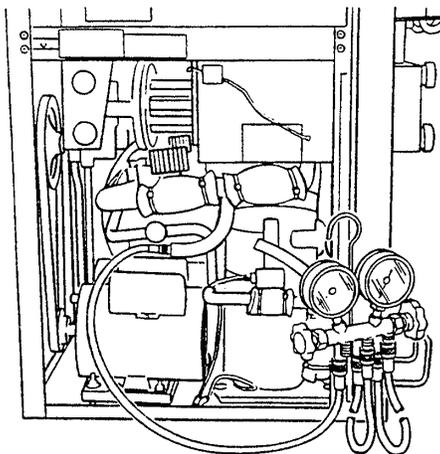

Figure 46. Pressure Gauges
- To check the liquid line solenoid valve seats, we must disconnect one of the electrical lines from each of the liquid line solenoids. Protect the terminal end of the disconnected electrical line with a piece of electrical tape. Then, connect the low side pressure gauges to the access fittings. Force the freezer to run by turning the OFF/ON switch to the ON position and opening the spigot. The gauge should show approximately 9" of vacuum after 1 minute. If the gauge does not reach 1" of vacuum in 1 minute and hold, you may have a leaking solenoid valve seat or leaking valves in the compressor. (Figure 46)